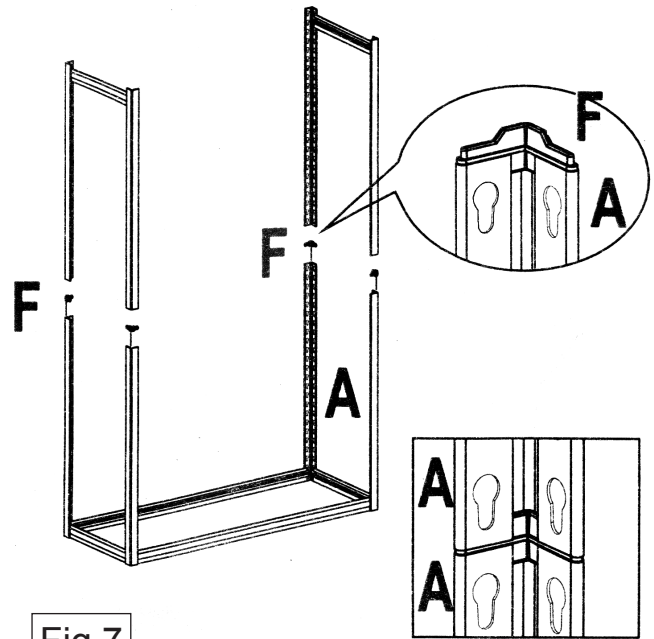

Fig.7
4.5 See Fig.7. Take the 4 post inserts (F) and push them into the top of the four angle posts of the bottom frame assembly. Now join the two upper end frames to the bottom frame by mounting each frame onto the post inserts as shown below.